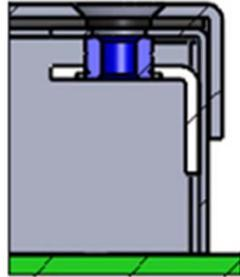

Fig. 6. Hybrid shield cross-section view.
- ▶ As seen in Fig. 6. spot welded lugs are aligned with cover openings for mechanical attachment.